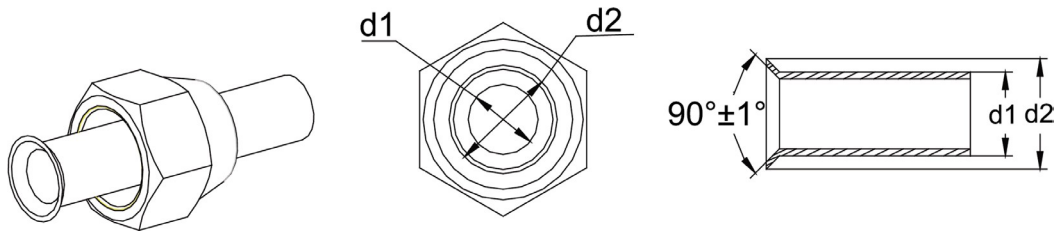

Fig. 13
- 3 Remove the flared nut connecting the indoor connecting pipe and the outdoor unit. Then, use the flaring tool to secure the flared nut in the pipe (see Fig. 13).